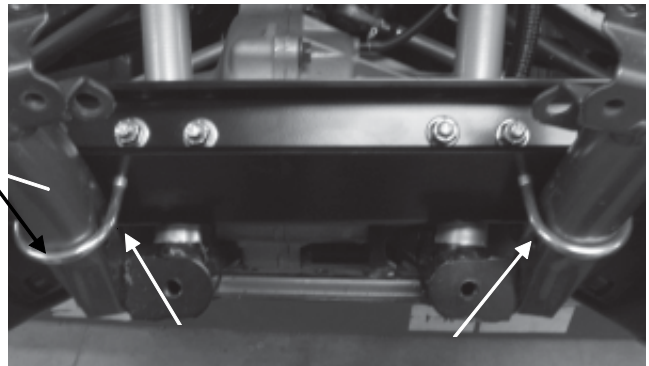

Figure 5
5. Connect the front of the mount to the front frame rails using the provided u-bolts (B3), and M8 flange hex nuts (B2). Do not tighten completely (fig. 5).